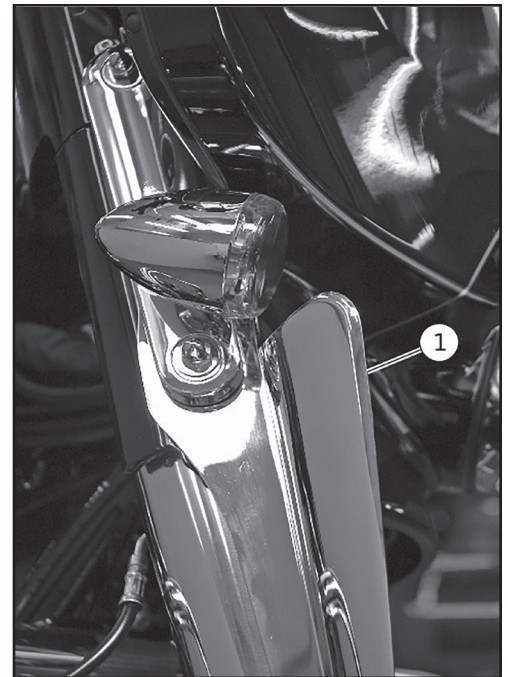

Figure 2. Wind Deflector
1. See Figure 2. On right side of vehicle, locate two mounting screws (2) which secure the fairing and the turn signal bracket to the fork assembly.
6. Repeat procedure for installation of left wind deflector (2) on the left side of the vehicle.
1. See Figure 2. On the right side of vehicle, remove the two acorn nuts and turn signal assembly and bracket. Disconnect the wire connector from the signal wire harness. Remove studs (2) that secure fairing to triple clamp. Insert wire connector through hole in wind deflector and place wind deflector (1) against fairing and install studs. Adjust wind deflector as far forward as possible to allow for clearance with engine guard. Tighten studs to 10-15 ft-lbs. Turn handlebar full left, then full right to check for clearance.
3. Repeat procedure for installation of left wind deflector (2) on the left side of the vehicle.